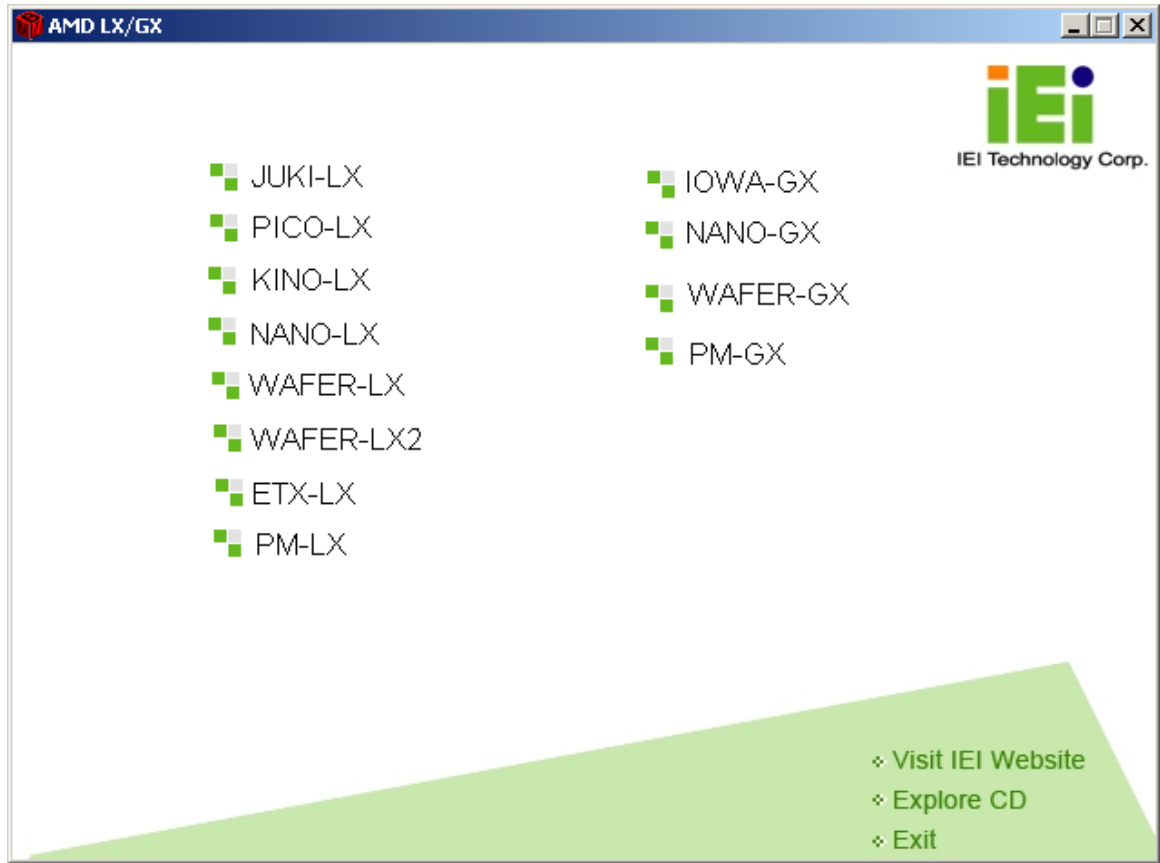

Figure 7-1: AMD LX/GX CD Main Menu
Step 1: From the AMD LX/GX Driver CD main menu (**Figure 7-1**), click **WAFER-LX2**.